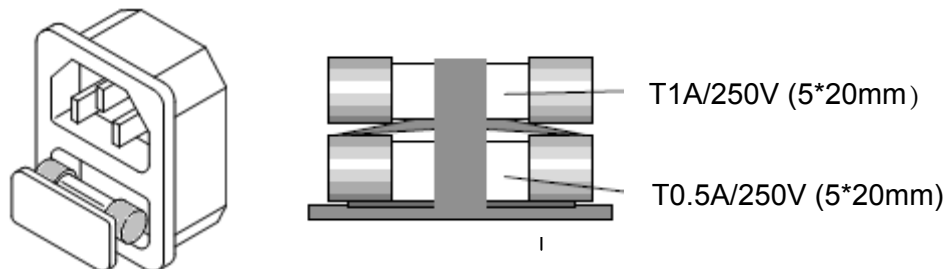

Fig 2-2 FUSE RECEPTACLE
2.2.2 The AC line fuse is located below the AC line socket (see Fig 2-2). Use A small screwdriver to remove the fuse holder. Replace the failed fuse With the appropriate type and rating according to your mains voltage. (See Table 1-2)